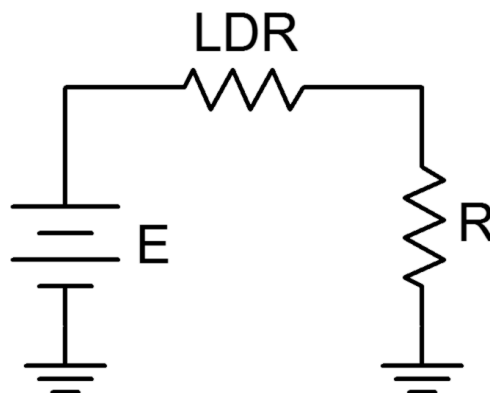

Figure 1
- Construct the circuit of Figure 1 using  $E=10$  volts and  $R=10\text{ k}\Omega$ . Using the voltage divider rule, determine the expected value for the voltage across  $R$  under normal lighting and then measure the voltage. Record these values in Table 2.